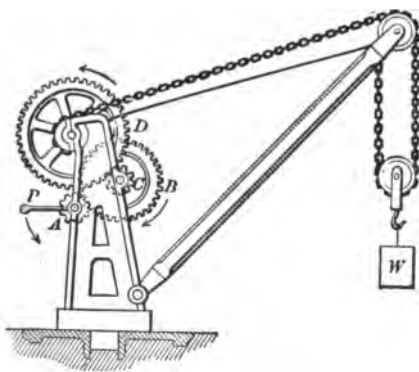

FIG. 37. — Builder's crane.
into its elements, let us, as it were, dissect a crane or derrick (Fig. 37) such as is used in unloading freight cars, or in hoisting building material into place.
11. In the crane shown in figure 37, the weight  $W$  is 5 tons, and the radii of the three small cogwheels are supposed to be equal and each  $\frac{1}{2}$  the radius of the crank  $P$  and of the wheels  $B$  and  $D$ , which are also equal. What is the mechanical advantage of the whole machine, and what force, neglecting friction, must be applied at  $P$ ?